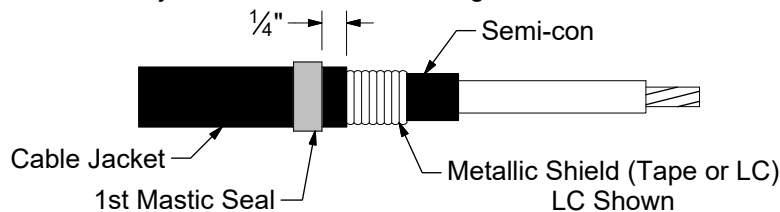

Figure 2A
2. Select one of the two mastic strips from the kit and remove white release liners. Using light tension apply a single wrap of mastic around the cable jacket 1/4" from the cut edge. Cut off excess mastic. See Figure 2A.